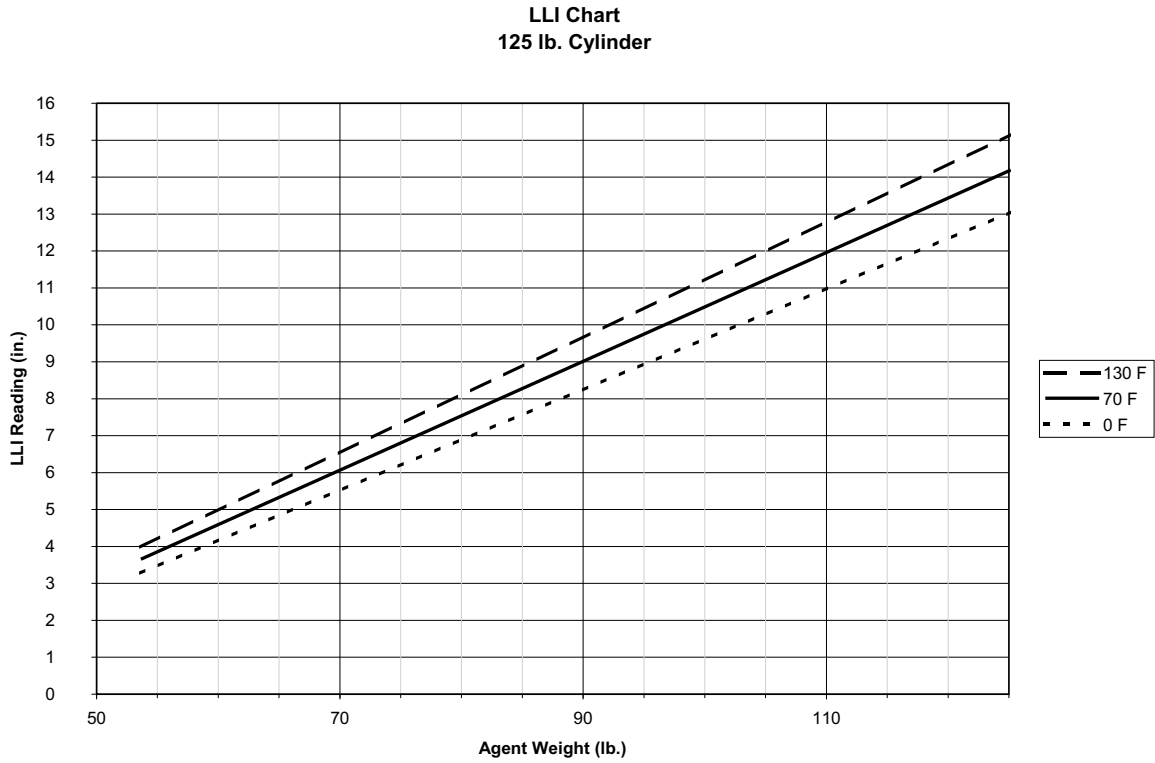

Figure 6-2. LLI Calibration Chart 125 lb. Cylinder
7. Refer to the appropriate calibration charts (see Figures 6-2 through 6-7) and locate the level reading on the vertical axis (labeled Flexible Tape Reading). Trace horizontally to the right to the appropriate temperature line. Read the weight of the Kidde Engineered System from the scale at the bottom of the chart. Record the weight and date on the record tag attached to the cylinder.